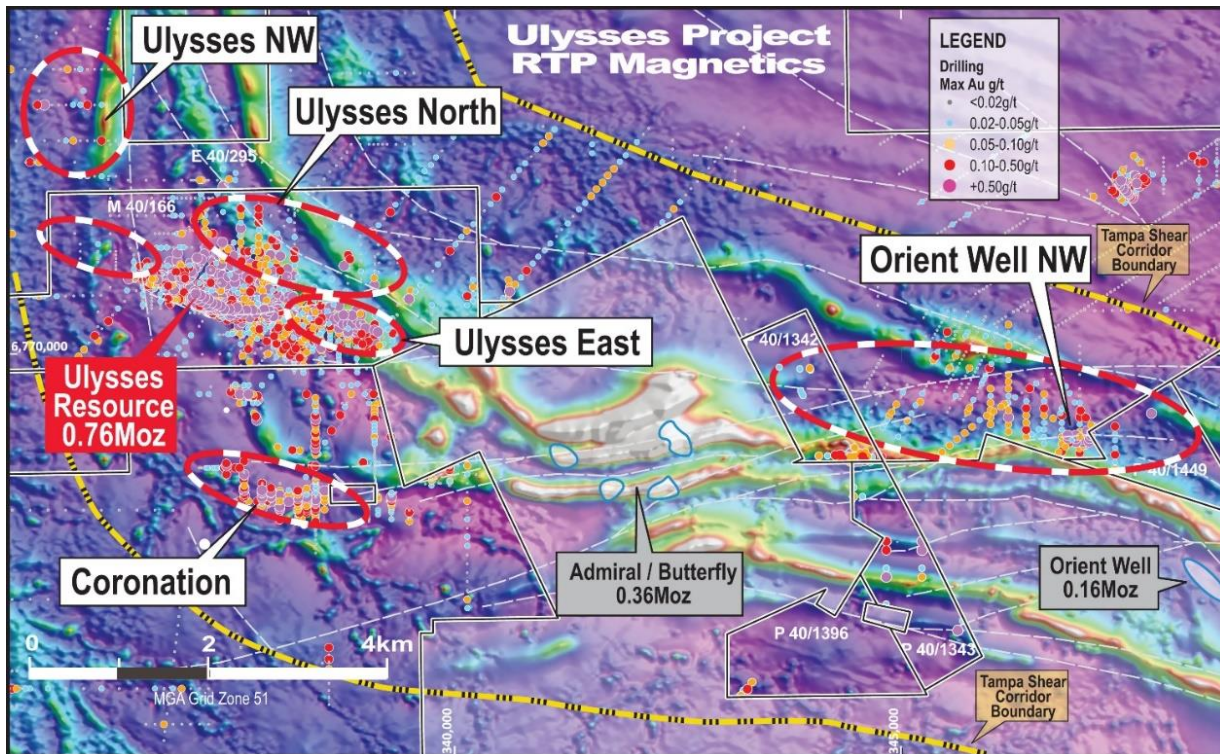

Figure 1. Location plan showing Orient Well NW prospect located 10km east of the Ulysses Resource.
Recent Reverse Circulation (RC) drilling has intersected further significant mineralisation at Orient Well NW (see Figure 1), located 10km east of the 760,000oz Ulysses Mineral Resource, highlighting the potential to delineate shallow Resources in this area which are potentially amenable to extraction via open pit methods.